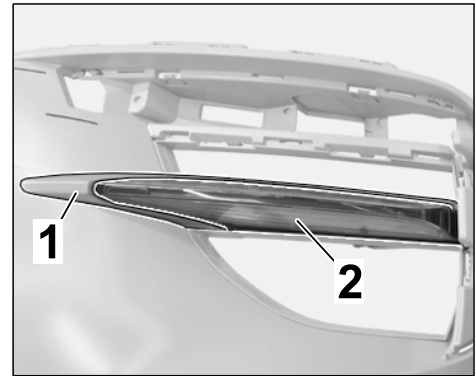

Figure 11
2.7.2 Fit new vane (left/right) into the respective air grille (⇒ *Figure 11*).